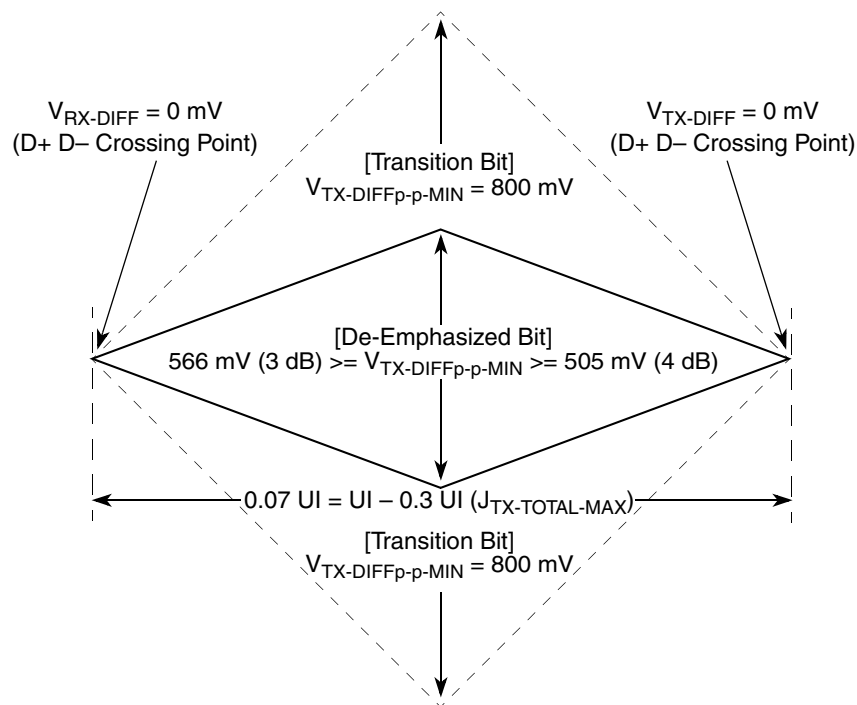
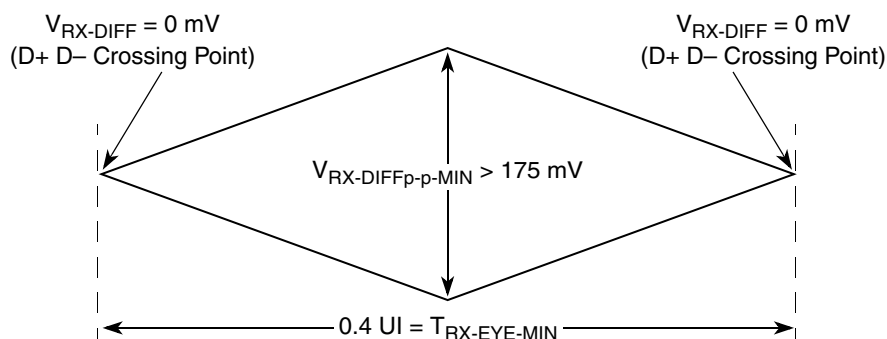
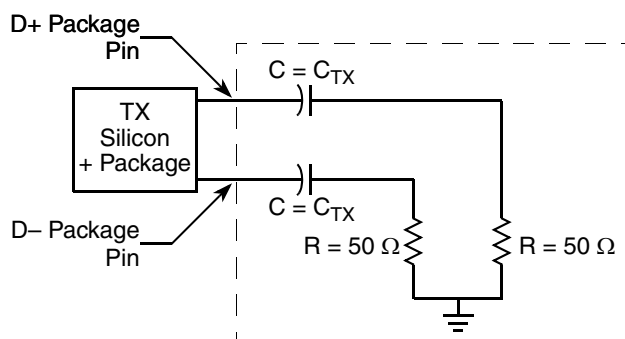

Figure 52. Minimum Transmitter Timing and Voltage Output Compliance Specifications
Figure 53. Minimum Receiver Eye Timing and Voltage Compliance Specification
Figure 54. Compliance Test/Measurement Load
2. Specified at the measurement point into a timing and voltage compliance test load as shown in Figure 54 and measured over any 250 consecutive TX UIs. (Also refer to the transmitter compliance eye diagram shown in Figure 52.)
4. The transmitter input impedance shall result in a differential return loss greater than or equal to 12 dB and a common mode return loss greater than or equal to 6 dB over a frequency range of 50 MHz to 1.25 GHz. This input impedance requirement applies to all valid input levels. The reference impedance for return loss measurements is 50 Ω to ground for both the D+ and D− line (that is, as measured by a vector network analyzer with 50- Ω probes—see Figure 54.) Note that the series capacitors C_{TX} is optional for the return loss measurement.
5. Measured between 20%–80% at transmitter package pins into a test load as shown in Figure 54 for both $V_{\text{TX-D+}}$ and $V_{\text{TX-D-}}$.
The TX eye diagram in Figure 52 is specified using the passive compliance/test measurement load (see Figure 54) in place of any real PCI Express interconnect +RX component.
2. Specified at the measurement point and measured over any 250 consecutive UIs. The test load in Figure 54 should be used as the RX device when taking measurements (also refer to the receiver compliance eye diagram shown in Figure 53). If the clocks to the RX and TX are not derived from the same reference clock, the TX UI recovered from 3500 consecutive UI must be used as a reference for the eye diagram.
4. The receiver input impedance shall result in a differential return loss greater than or equal to 15 dB with the D+ line biased to 300 mV and the D– line biased to –300 mV and a common mode return loss greater than or equal to 6 dB (no bias required) over a frequency range of 50 MHz to 1.25 GHz. This input impedance requirement applies to all valid input levels. The reference impedance for return loss measurements for is 50 Ω to ground for both the D+ and D– line (that is, as measured by a vector network analyzer with 50- Ω probes, see Figure 54). Note that the series capacitors CTX is optional for the return loss measurement.
The RX eye diagram in Figure 53 is specified using the passive compliance/test measurement load (see Figure 54) in place of any real PCI Express RX component.
In general, the minimum receiver eye diagram measured with the compliance/test measurement load (see Figure 54) will be larger than the minimum receiver eye diagram measured over a range of systems at the input receiver of any real PCI Express component. The degraded eye diagram at the input receiver is due to traces internal to the package as well as silicon parasitic characteristics which cause the real PCI Express component to vary in impedance from the compliance/test measurement load. The input receiver eye diagram is implementation specific and is not specified. RX component designer should provide additional margin to adequately compensate for the degraded minimum receiver eye diagram (shown in Figure 53) expected at the input receiver based on some adequate combination of system simulations and the return loss measured looking into the RX package and silicon. The RX eye diagram must be aligned in time using the jitter median to locate the center of the eye diagram.
The reference impedance for return loss measurements is $50\ \Omega$ to ground for both the D+ and D– line (that is, as measured by a vector network analyzer with $50\text{-}\Omega$ probes, see Figure 53). Note that the series capacitors, CTX, are optional for the return loss measurement.
The AC timing and voltage parameters must be verified at the measurement point, as specified within 0.2 inches of the package pins, into a test/measurement load shown in Figure 54.